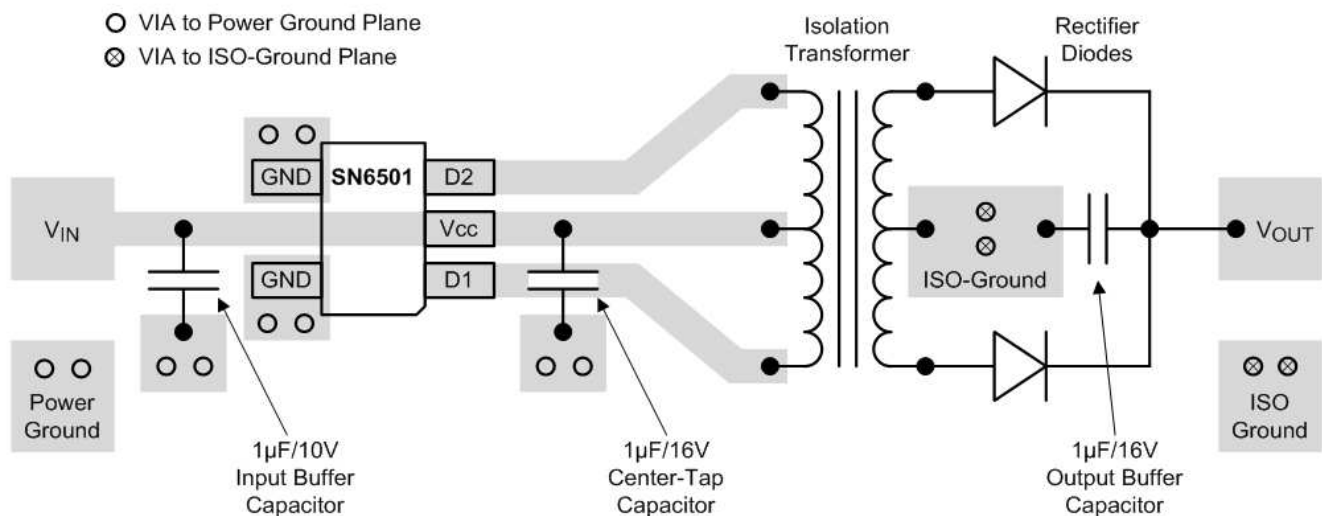

图 57. Layout Example of a 2-Layer Board (SN6501)
- The optimum placement is closest to the V_{IN} and GND pins at the board entrance to minimize the loop area formed by the bypass-capacitor connection, the V_{IN} terminal, and the GND pin. See Figure 57 for a PCB layout example.